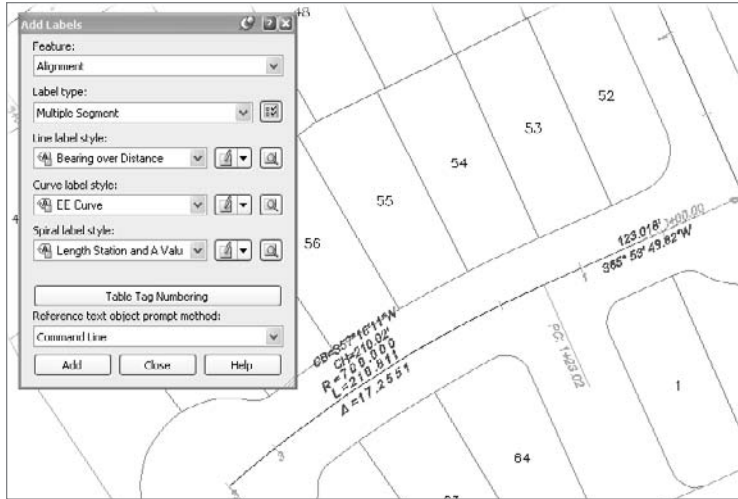

Figure 8.17
2. From the main menu, select `Alignments → Add Alignment Labels → Add Alignment Labels` to display the Add Labels dialog shown in Figure 8.17.
5. Change the Curve Label Style to EE Curve. Your dialog should now look like Figure 8.17.